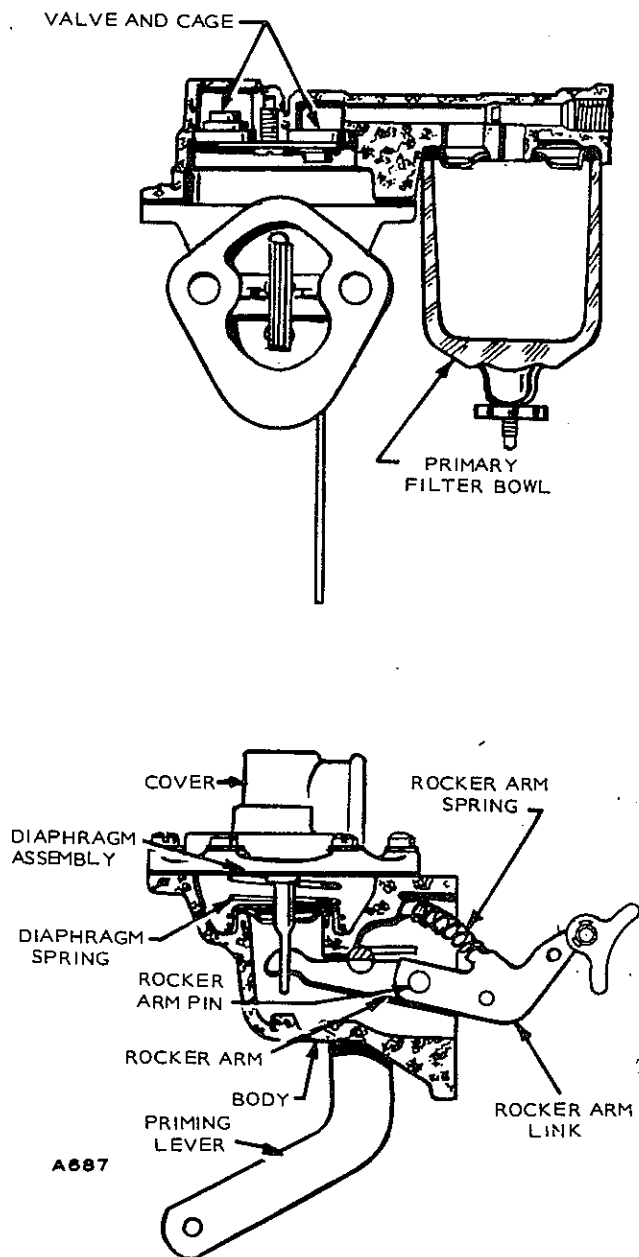

FIGURE 9-4. FUEL TRANSFER PUMP
Low pressure with little or no pressure leak after pumping stops indicates a weak or broken spring or worn linkage, and, in most cases, the pump should be replaced. Figure 9-4 shows the fuel transfer pump.
2. Insert link and rocker arm into body and hook it over diaphragm pull rod. Align rocker arm with rocker arm pin hole and drive in pin. The priming lever must be in position shown in Figure 9-4 when installing rocker arm.